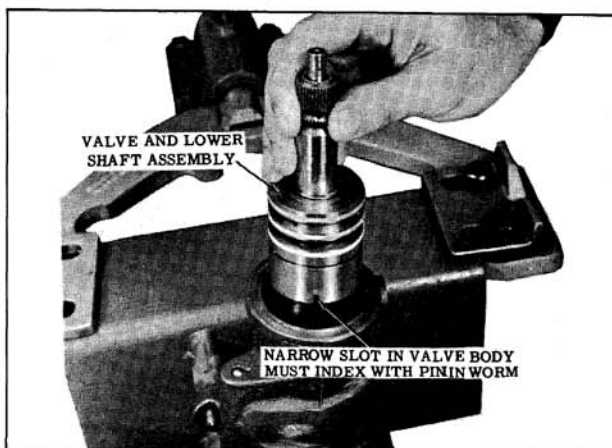

Fig. 8-67 Installing Valve and Lower Shaft Assembly
- a. Lubricate the valve body teflon rings and a new lower shaft cap "O" ring with petrolatum. Install the lower shaft cap "O" ring in the valve body so it is seated against the lower shaft cap. Align the NARROW NOTCH in the valve body with the pin in the worm, then install the valve and shaft assembly in the gear housing. (Fig. 8-67) Apply pressure to the VALVE BODY when installing. If pressure is applied to the lower shaft during installation, the shaft may be forced out of the valve body.